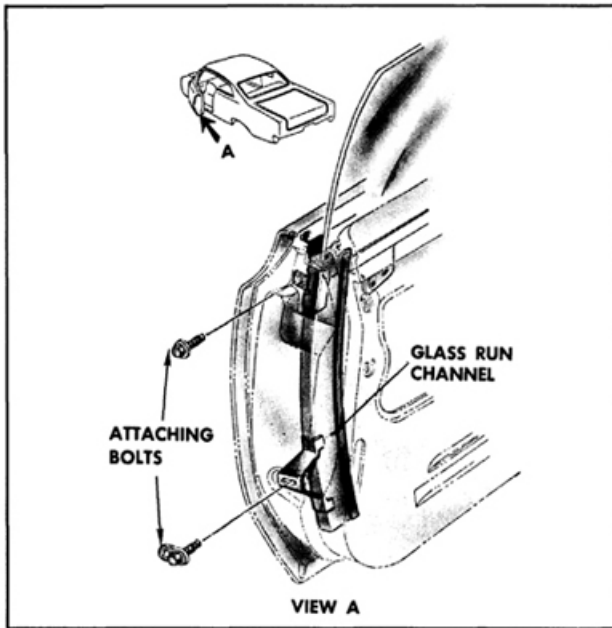

Fig. 16-348 Run Channel Attachment
4. To install, reverse removal procedure. (Fig. 16-348)